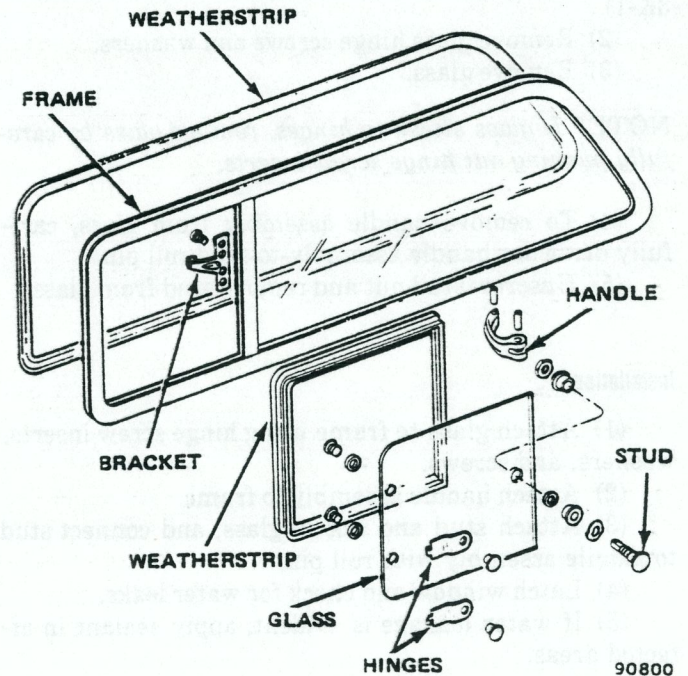

Fig. 3K-1 Rear Quarter Window—Cherokee Models
- (1) Remove handle-to-frame attaching screws (fig. 3K-1).
- (2) Remove glass hinge screws and washers.
- (3) Remove glass.
- (4) To remove handle assembly from glass, carefully drive out handle assembly-to-stud roll pin.
- (5) Unscrew stud nut and remove stud from glass.